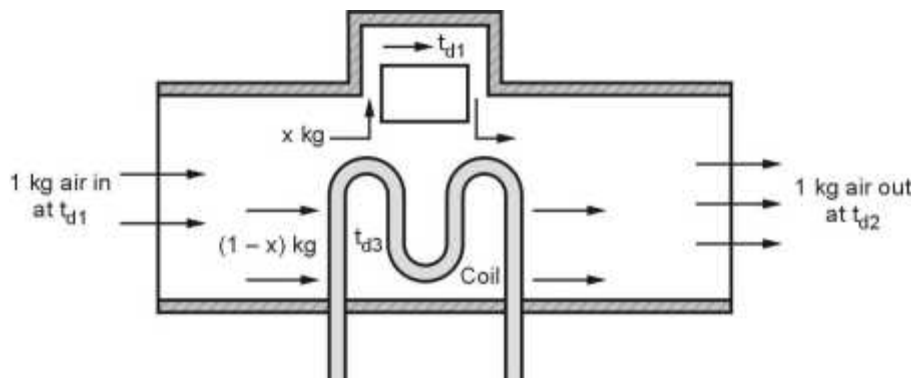

Fig. 5.69 : By pass factor
- Let us consider the air at temperature  $t_{d1}$  passes over coil having surface temperature of  $t_{d3}$  as shown in Fig. 5.69.